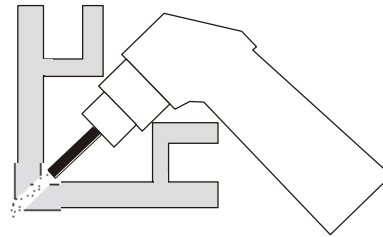

Fig. 7
7. In case of cutting in the corner or around the corner (see Figure 7), use the long electrode and cutting tip (pos. 17 and 20). The cutting power while